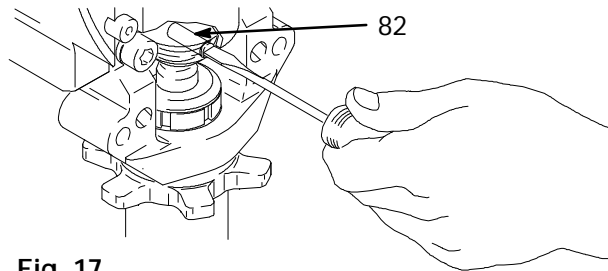

Fig. 17
5. Fig. 17. Use screwdriver: push retaining spring up and push out pin (82).
2. Fig. 17. Push pin (82) into hole, and push retaining spring into groove around connecting rod.